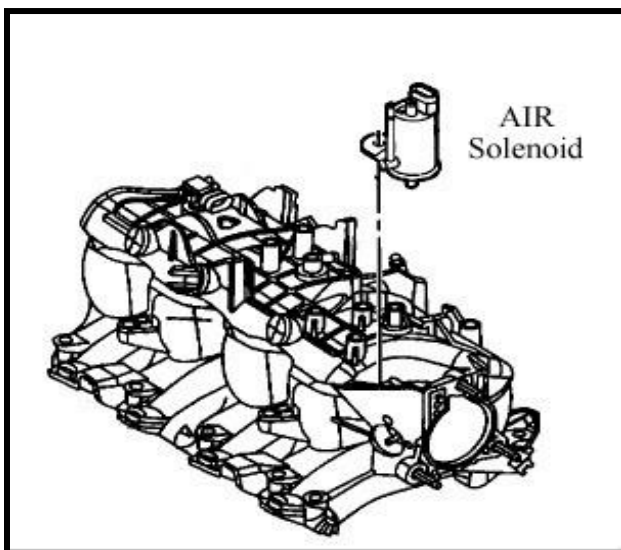

FIGURE 6.8 Air Solenoid
- C. **AIR SOL (not equipped on all models)** - The AIR solenoid is activated by the AIR pump solenoid relay. The AIR solenoid allows intake manifold vacuum to the shut off valve. The shut off valve then opens allowing air flow. **See Figure 6.8**